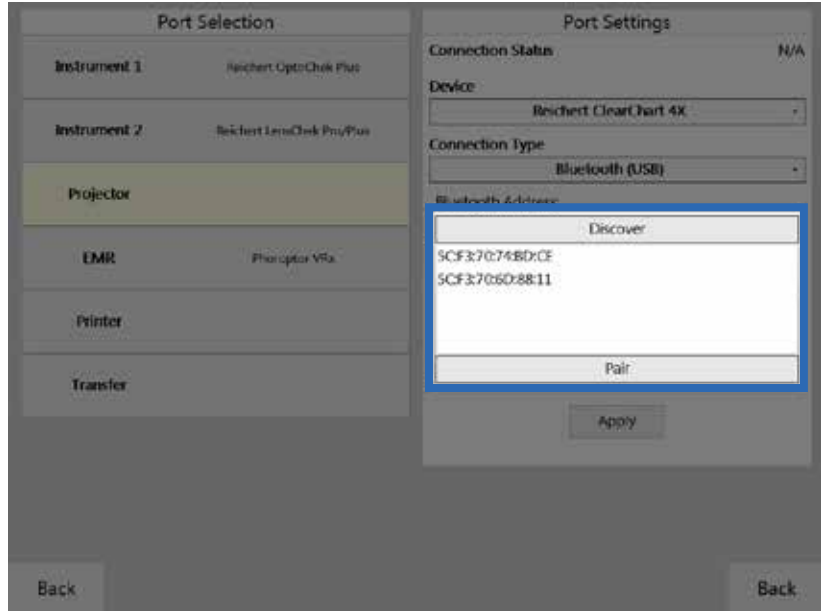

Figure IS-21, USB Address & Pair
- Once the Bluetooth address is displayed, select the address that matches the address on the ClearChart and tap **Pair**. (Tapping Apply is not needed.) Refer to Figure IS-21.